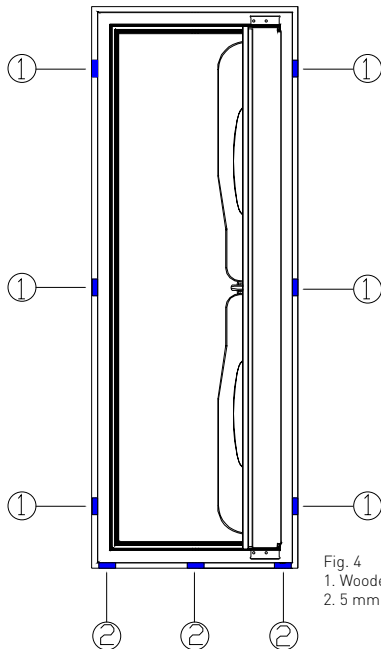

Fig. 4
4. Place two 5mm wooden blocks under frame on both wall sides, with another in the middle under the door if required. **See figure 4, item 2.**
5. Wedge frame into place along full length of sides, and insert load-bearing wedges in middle of sides. Check frame is level horizontally and vertically! **See figure 4, item 1.**